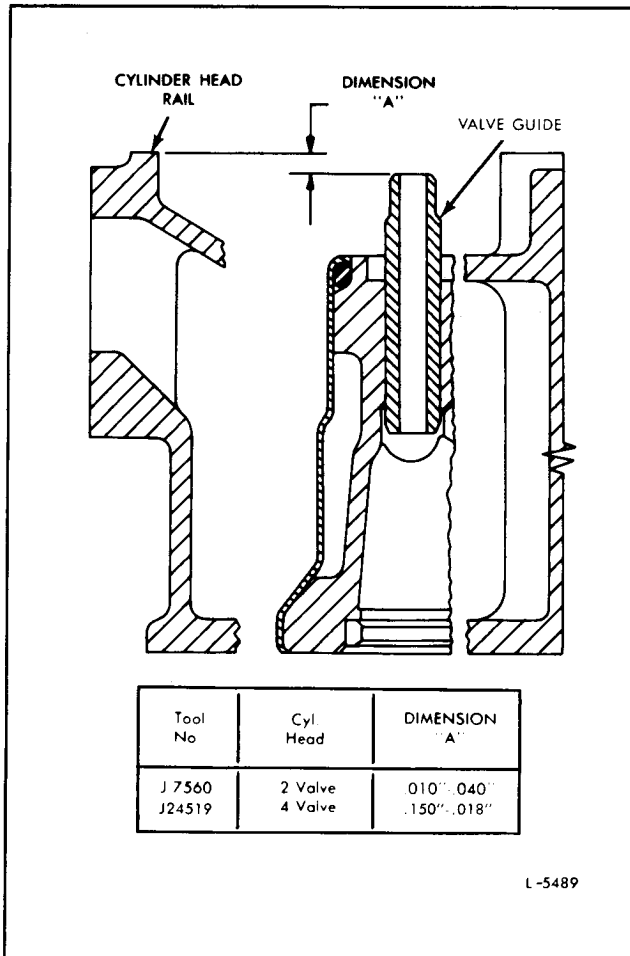

Fig. 7 - Valve Guide Installing Tools
2. Insert the internally threaded end of the valve guide in the proper valve guide installing tool (refer to the *Valve Guide Installing Tools Chart* (Fig. 7). When